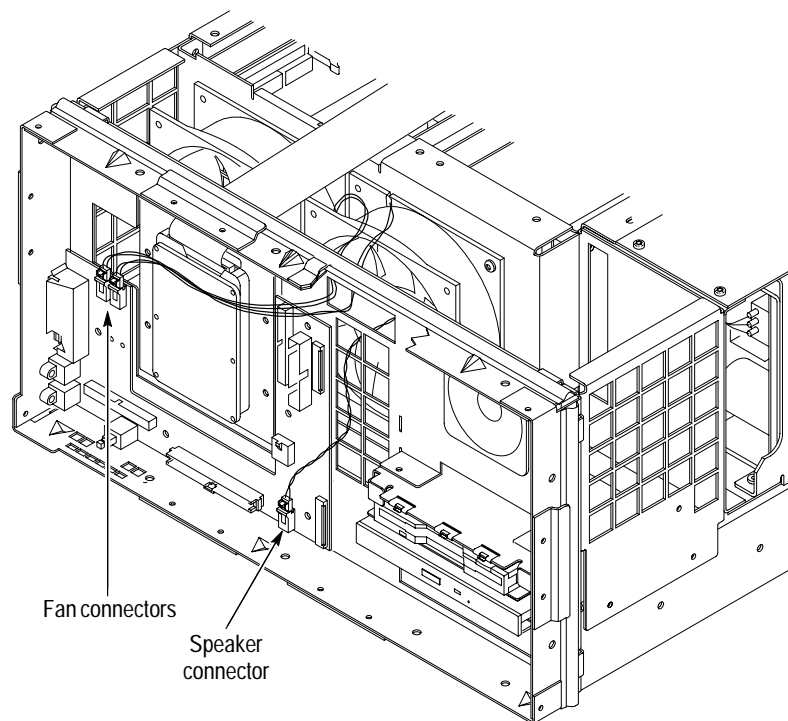

**Figure 6–20: Screw locations for the interface circuit board**
**Reinstall the Interface Board.** Install the interface board onto the mainframe chassis as shown in Figure 6–20.
4. Route both fan wire harnesses through the slot in the chassis as shown in Figure 6–21.